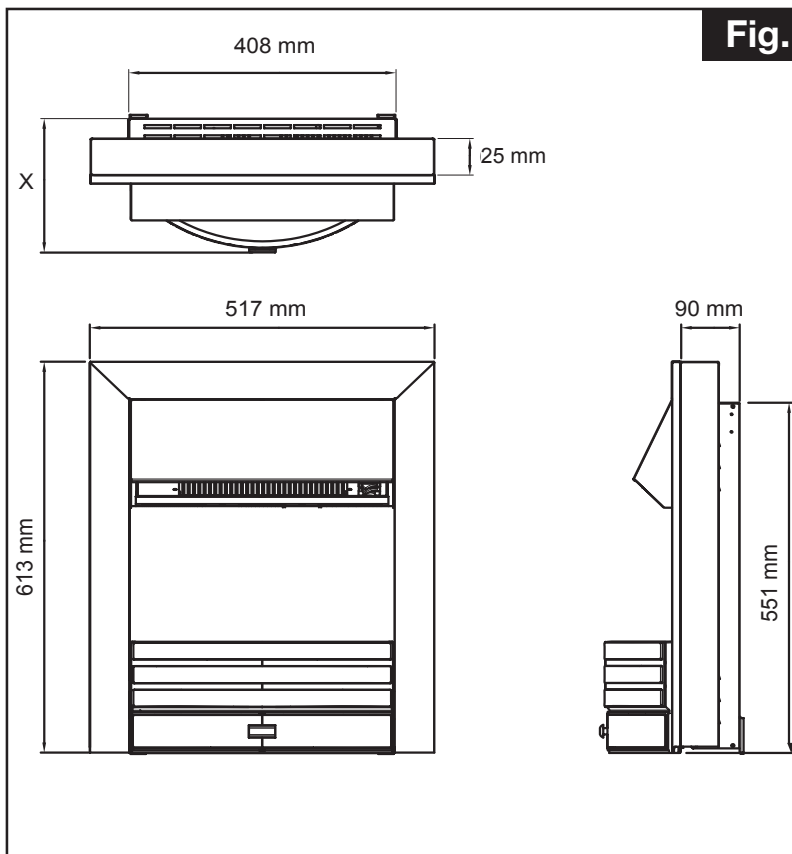

Fig. 4
1. Determine whether the installation of your fire will be with/without the spacer. See Fig. 4 and Table 2 for reference to dimensions of your electric fire.